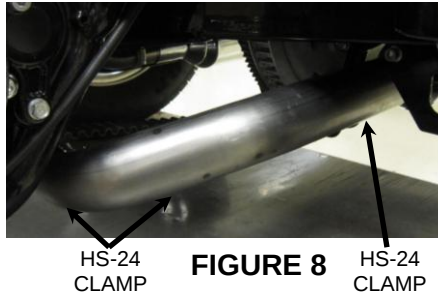

FIGURE 8
22. Place left rear heatshield in position on the crossover assembly on the left side of the motorcycle. (Hint: Spread the hose clamps apart slightly to make it easier to slide them over the headpipes.) Align the heatshield with the crossover assembly and snug the clamps but **DO NOT TIGHTEN** at this time. See **FIGURE 8**.